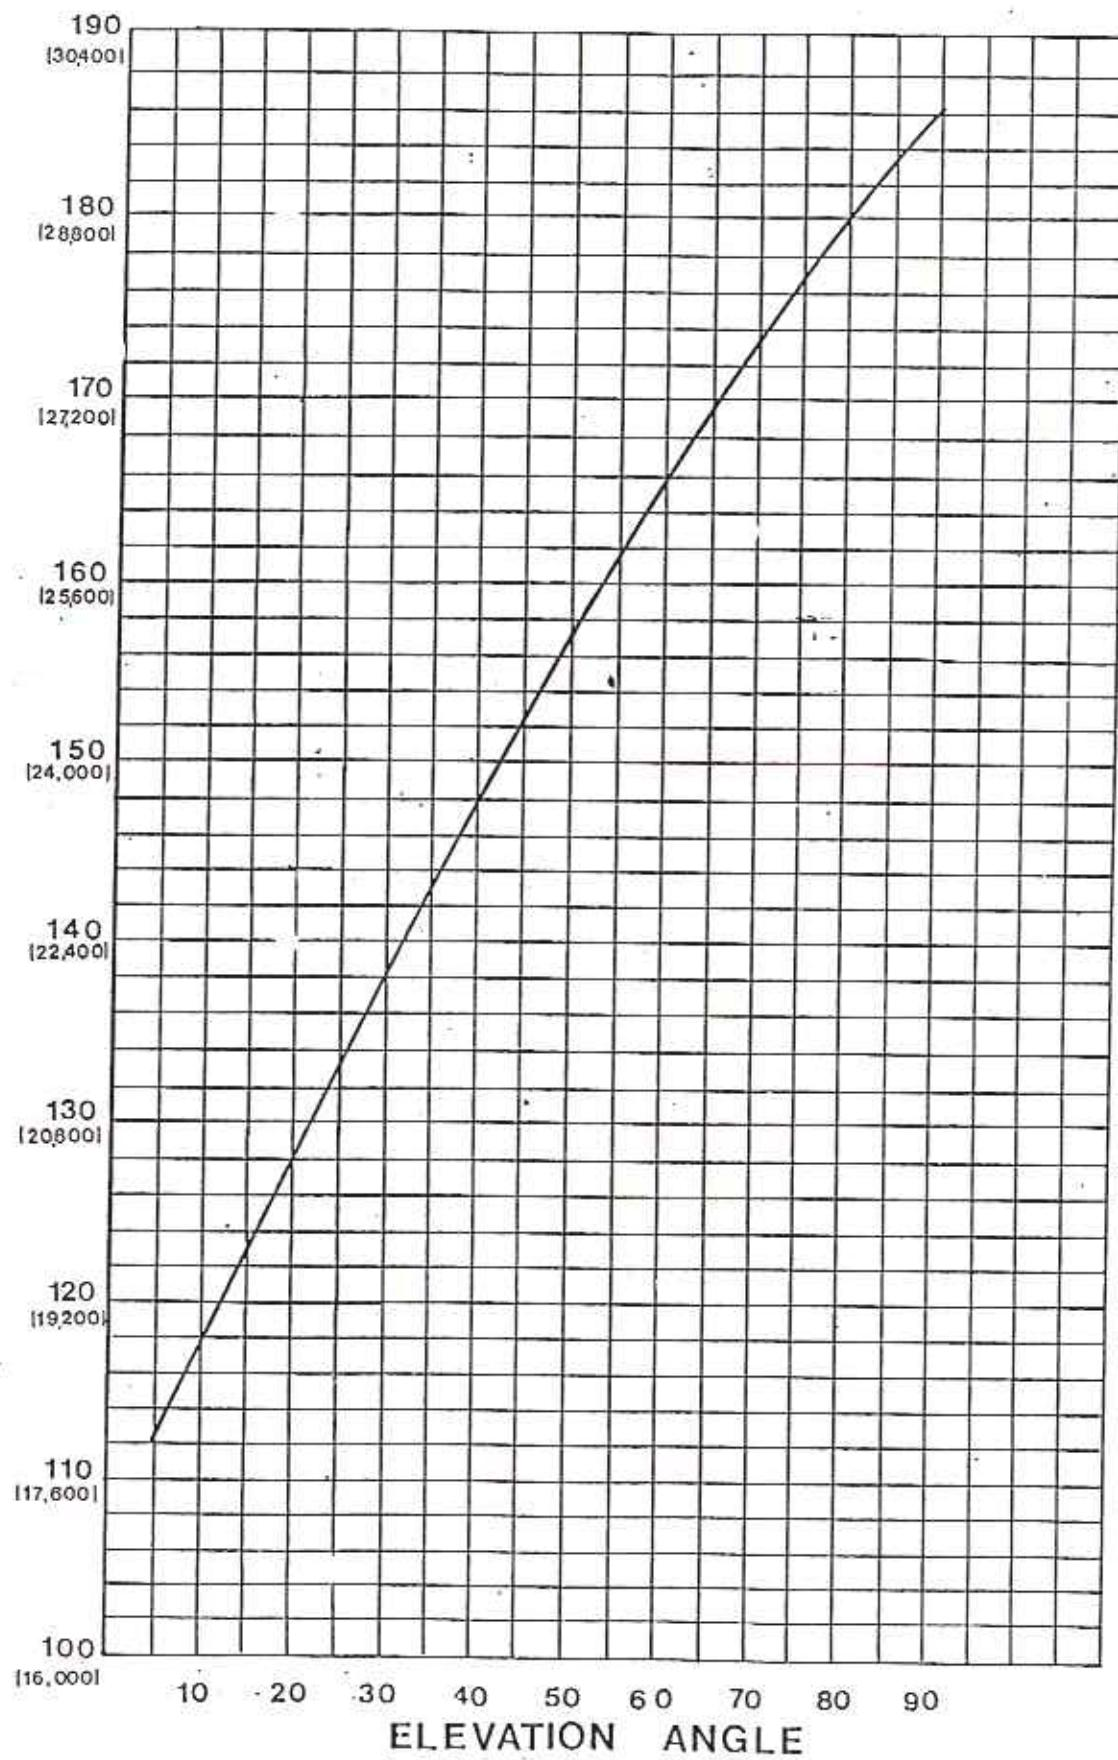

Figure 5-1
- 5.2 SATELLITE ACQUISITION. It is assumed that the azimuth and elevation angles for the desired satellites have been computed and furnished elsewhere for your specific site. Based on the azimuth and elevation angles, determine the approximate jack length by using figures 5-1 and 5-2. Note the azimuth angles given assume that a 0 degree azimuth is with the reflector looking straight ahead on the foundation with west movement being negative. For example, if the foundation heading is given as 204 degrees and the desired azimuth angle is 225 degrees, you would then determine the jack length for a -21 degree azimuth.
- 5.4 OPTIONAL COUNTERS. If the optional counters for manual interface jacks were purchased, manually adjust the count to read the number obtained from figures 5-1 and 5-2. Install the counters on the actuators by moving two of the bearing cap bolts per assembly drawing 705-009. Set the counter readout to the corresponding jack length.
- 5.8 RECORDING FINAL POSITION. Once the peak signal has been obtained it is important that the information be recorded for future reference in acquiring additional satellites. Record in Table 5-1 the actual jack lengths pin-to-pin for satellite obtained. If the optional counters are used reset the counters to match the elevation and azimuth angle indicated on figures 5-1 and 5-2 and record. Using a scribe, mark the polarization angle with respect to vertical.